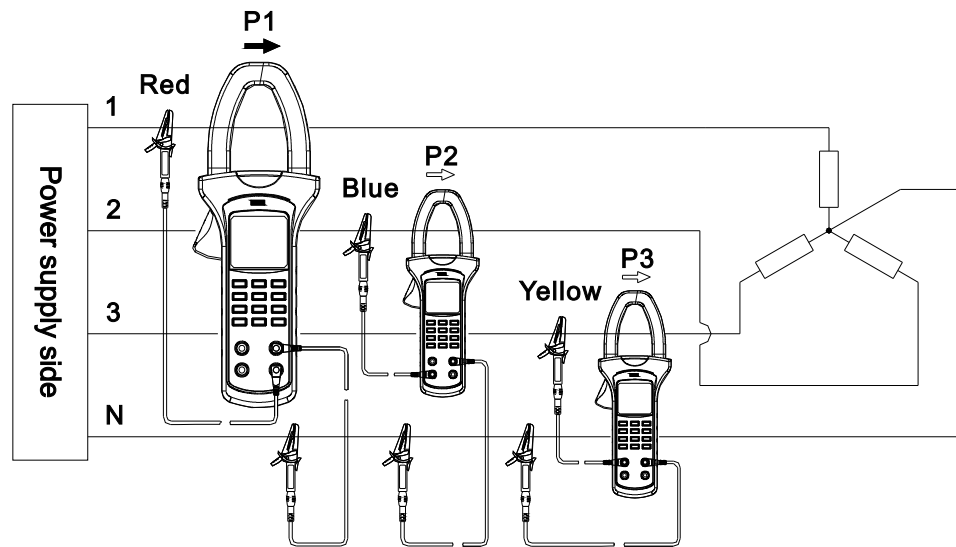

Figure 4 Power measurement of three-phase four-wire system
- 1) Press MENU key to select gear of “active power (kW)+voltage (V)+ current (A)” ;
- 3) (As shown in Figure 4), “V1” end/red testing pen, “V2” end/blue testing pen and “V3” end/yellow testing pen shall be connected to every phase of firing line of three-phase load respectively during load measurement of three-phase four-wire system. “COM” end/black testing pen also shall be connected to zero wire of three-phase load.
7.2 Apparent power (kVA)+Voltage(V)+Current (A)
- Please press MENU to select “Apparent power (kVA)+Voltage (V)+Current (A)” gear;
- Please refer to Figure 4, 5 & 6 of UT240 manual for wiring of three-phase four-wire system, three-phase three-wire system or single-phase two-wire system.
- 3) Please refer to Figure 4, 5 & 6 of UT240 manual for wiring of three-phase four-wire system, three-phase three-wire system or single-phase two-wire system.